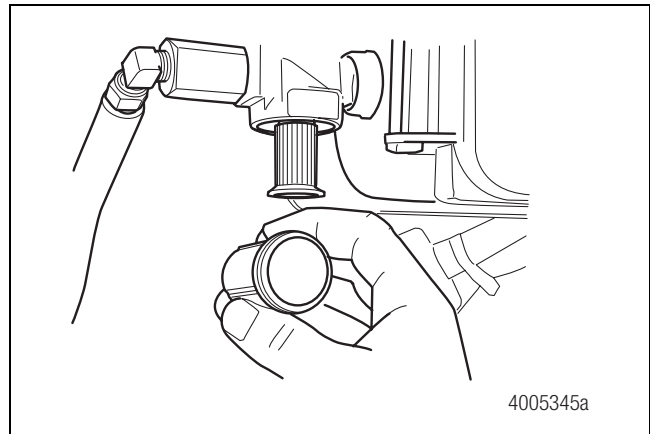

Figure 5.1
- Self-draining filter. Figure 5.1.